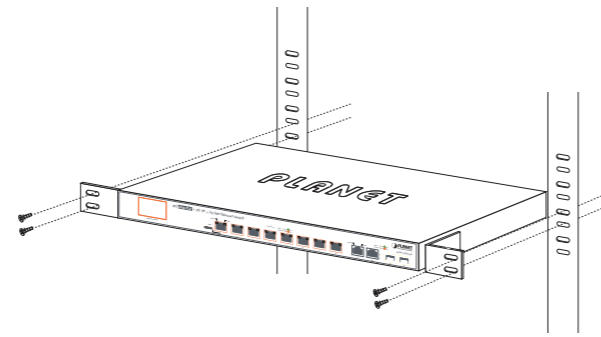

Figure 4: Mounting the Ultra PoE Gigabit Switch in a Rack
- Step 5:** After the brackets are attached to the Ultra PoE Gigabit Switch, use suitable screws to securely attach the brackets to the rack, as shown in Figure 4.